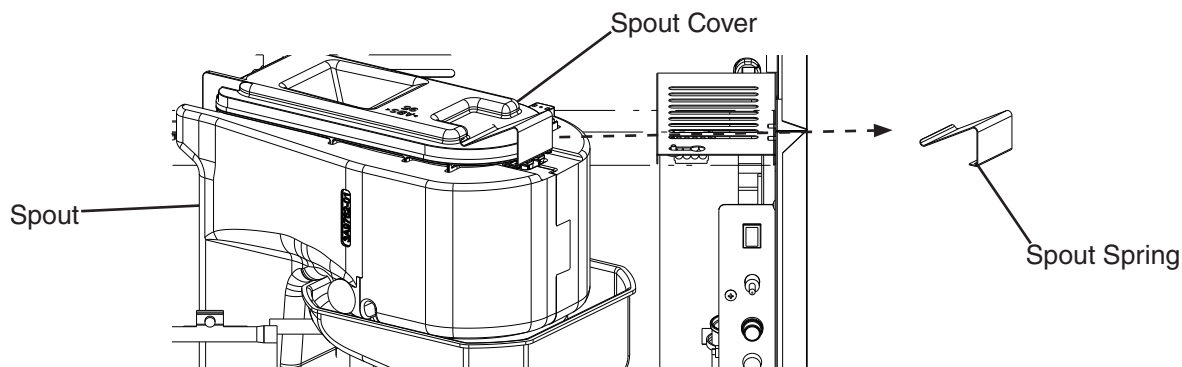

Fig. 4
8) CB "GM" and "COMP" LEDs are on. Use an object to cover BC1 lens at the bottom of the icemaker. If the bottom of the icemaker is not accessible in your application, remove the thumbscrew securing BC1 housing, remove the housing from the base, then cover BC1 lens. See Fig. 4. The yellow LED on BC1 turns on (flashing or steady). The yellow LED flashes when ice is at the outer limit of its range and turns steady as ice nears. After the yellow LED turns on (flashing or steady), BC1 shutdown delay timer starts. See "III.B.2. BC1 (Infrared Sensor) Shutdown Delay (S1 dip switch 1, 2, 3)." PDS should de-energize immediately after the shutdown delay timer terminates. 5 min. later, GM should de-energize.
- 3) Remove the spout spring from the spout. See Fig. 4.
- 5) While not necessary, the floats can be removed from the shaft during cleaning. If you remove them, note that the blue float is on top (UFS) and the white float is on bottom (LFS). The floats must be installed with the magnets inside them towards the top of the switch. See Fig. 4. Installing the floats upside down will affect the timing of FS operation.